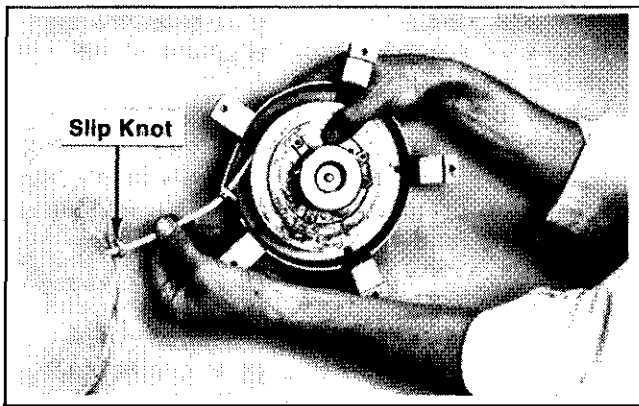

Figure 7-23. Winding Rope Onto Pulley.
17. Hold the pulley firmly with thumbs and allow the pulley to rotate slowly until the slip knot reaches the rope guide bushing of housing. Refer to Figure 7-23.